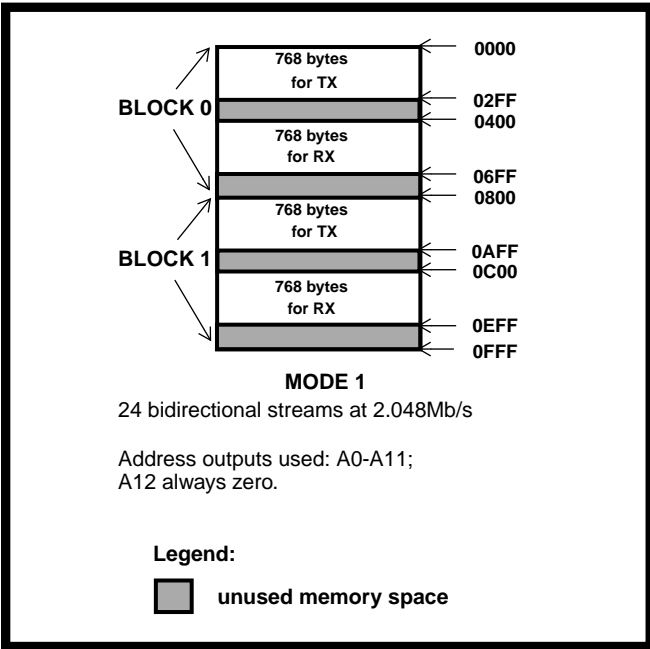
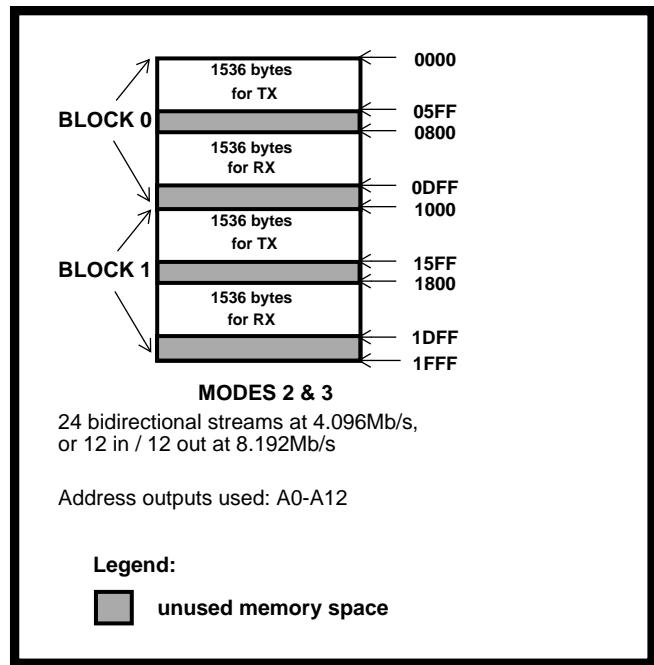
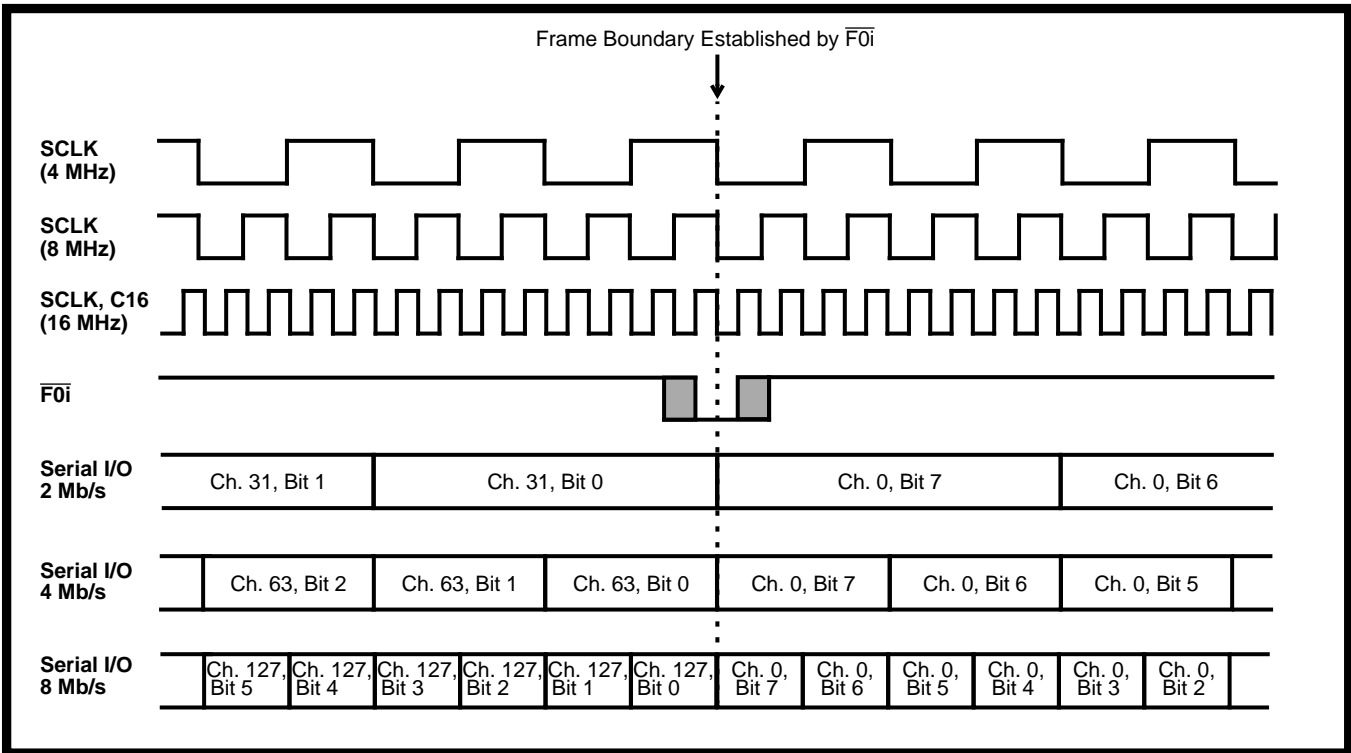
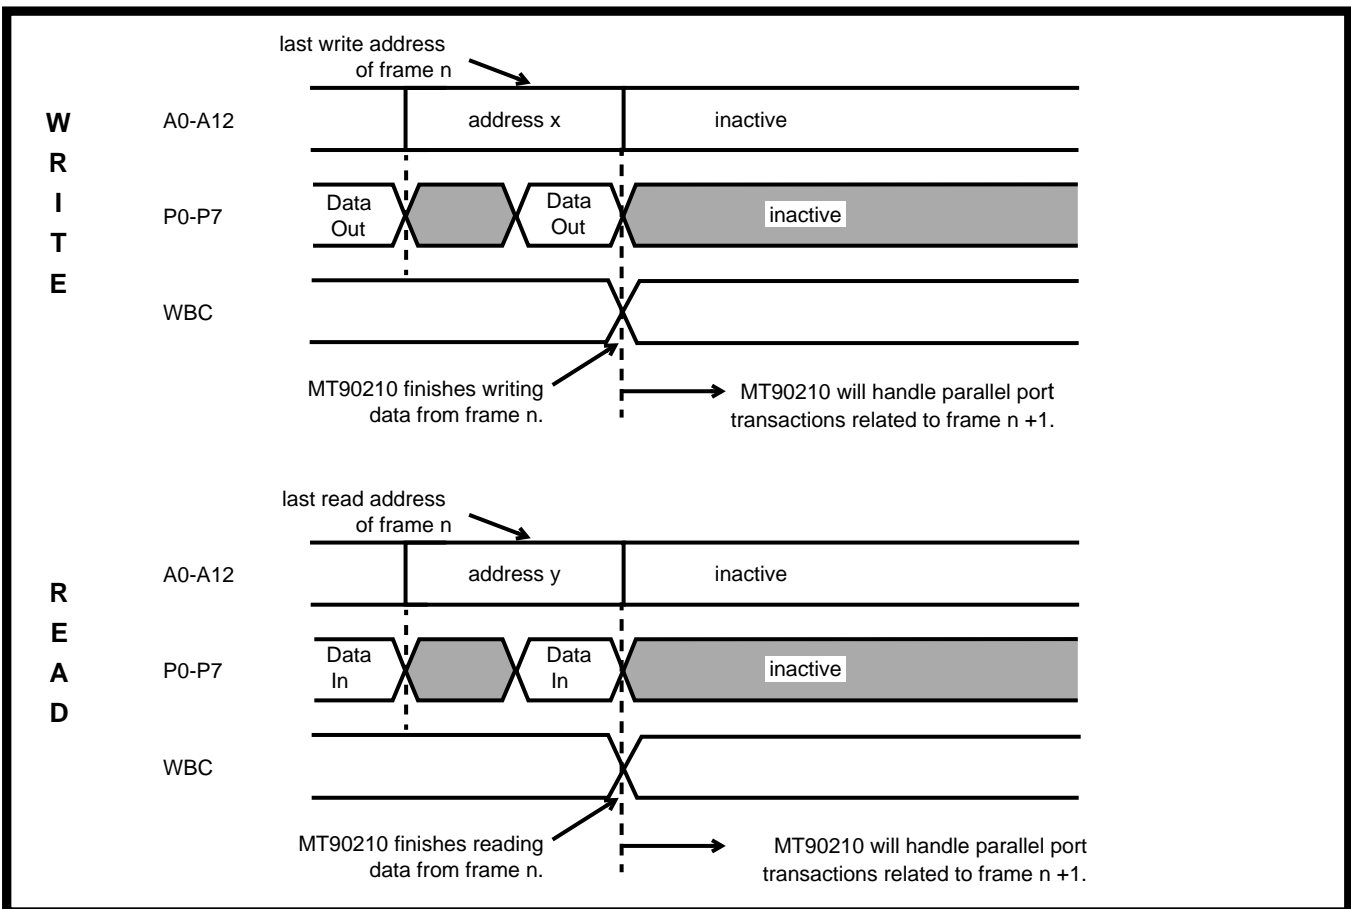

Figure 3 - Dual Port RAM Memory Map for Mode 1
Figure 4 - Dual Port RAM Memory Map for Modes 2 and 3
Figure 6 - Serial Port Functional Timing
Figure 7a - WBC and RBC Output Transition
Depending on the operation mode selected at the mode pins (MD0-MD2), the 64 kb/s serial telecom channels may be configured as inputs or outputs. The data on the parallel bus is in a format suitable for interfacing with popular dual port memories. Depending on the data rate selected by the MD0-MD2 input pins, serial data is clocked in and out on the serial streams at either 2.048, 4.096 or 8.192 Mb/s, as shown in Figure 6. A mechanism for implementing external double buffering is provided by the Write Block Complete (WBC) and Read Block Complete (RBC) output pins. Double buffering the data allows the processor to independently access an entire frame of data in the external memory while the MT90210 reads or writes the complementary frame in the memory. For example, in mode 3 (Figure 4), during the first frame the MT90210 will read and write in to the first half of the memory space (Block 0) and during the second frame the MT90210 will read and write in to the second half of the memory space (Block 1). Within each block the transmit data and receive data are separated and located at fixed address locations. The operation of WBC and RBC is shown in Figures 7a and 7b.
**Mode 1:** The serial input/output format conforms to the ST-BUS requirements when the data rate is 2.048 Mb/s (see Figure 6). Serial port clock (SCLK) is 4.096 MHz. The on-chip PLL produces a phase locked 16.384 MHz clock (CKout) from the SCLK input. In this data rate operation, the 24 serial lines (S0-23) become bidirectional links at 2.048 Mb/s. The ST-BUS is a time-division multiplexed serial bus with 32, 8-bit channels per frame. Frame boundaries are delineated by the frame pulse. Figure 3 depicts
**Mode 2:** When the device is configured for 4.096 Mb/s data rate operation, each of the 24 time-division multiplexed serial streams is made up of 64 channels. In this data rate operation, the 24 serial lines (S0-23) become bidirectional links at 4.096 Mb/s. Serial port clock (SCLK) is 8.192 MHz. The on-chip PLL produces a phase locked 32.768 MHz clock (CKout) from the SCLK input. Figure 4 depicts how the data from the serial port is mapped into the external dual port memory.
**Mode 3:** When the device is configured for 8.192 Mb/s data rate operation, each of the 24 time-division multiplexed serial streams is made up of 128 channels. In this mode, bidirectional operation on the serial port streams is not provided and the MT90210 is set in a 12 in / 12 out configuration and the  $\overline{OEser}$  input is ignored. Streams S0-S11 are configured as inputs, and S12-S23 are configured as outputs. Serial port clock is 16.384 MHz. The on-chip PLL doubles this clock to produce a CKout clock of 32.768 MHz. Figure 4 depicts how the data from the serial port is mapped into the external dual port memory. Figure 12 and Table 3 show the write and read operations on the parallel port at the frame boundary.